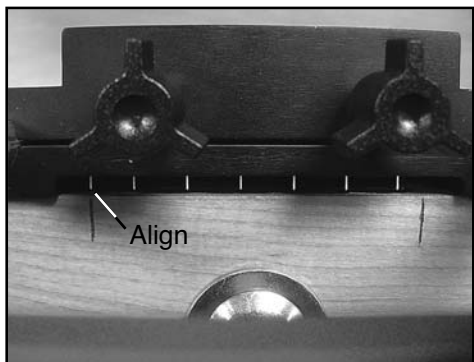

Fig. 15
4. Remove alignment board and clamp piece to be mortised in jig, lining up left pencil line with far left guide line on drill block. (Fig. 15)